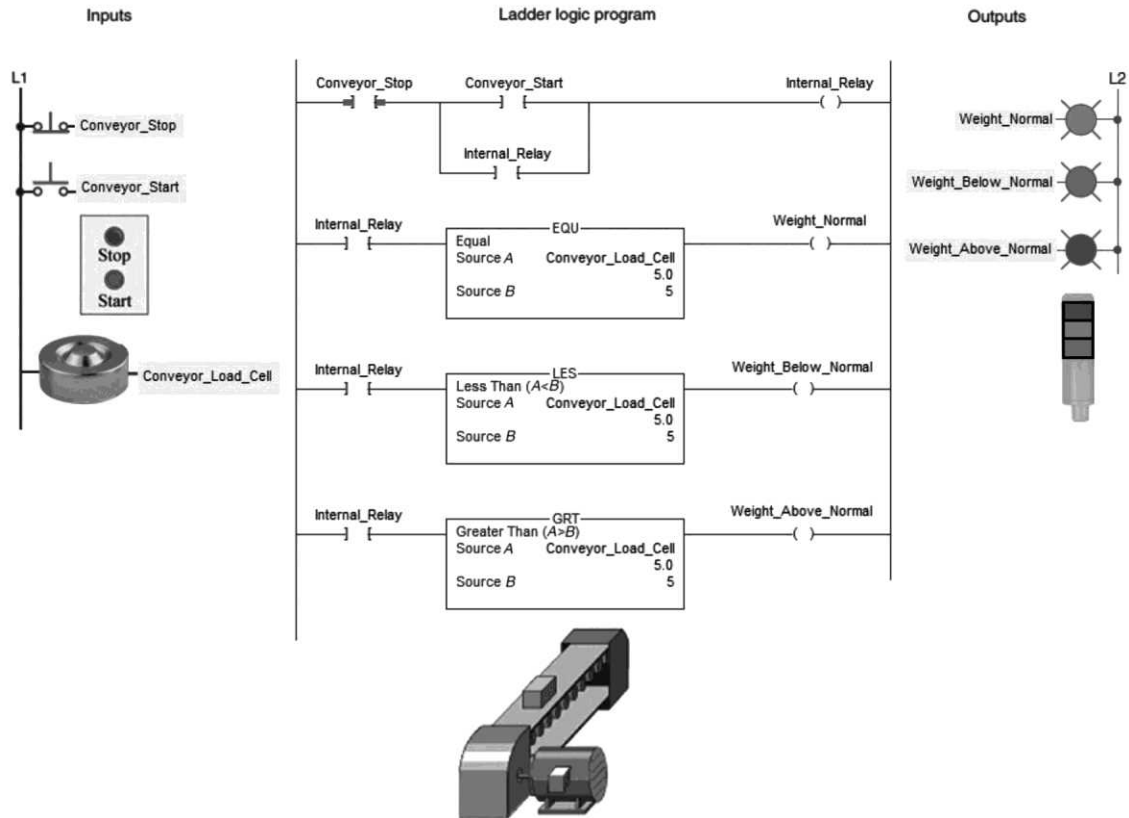

Figure 15-52 Speed control of a three-speed motor conveyor system program for assignment 5.
5) The program for speed control of a three-speed motor conveyor system is shown in Figure 15-52 and described in the text. Prepare an I/O connection diagram and ladder logic program that will simulate its operation. Utilize field devices found on your ControlLogix installation. Enter the program into the controller, and monitor its operation.